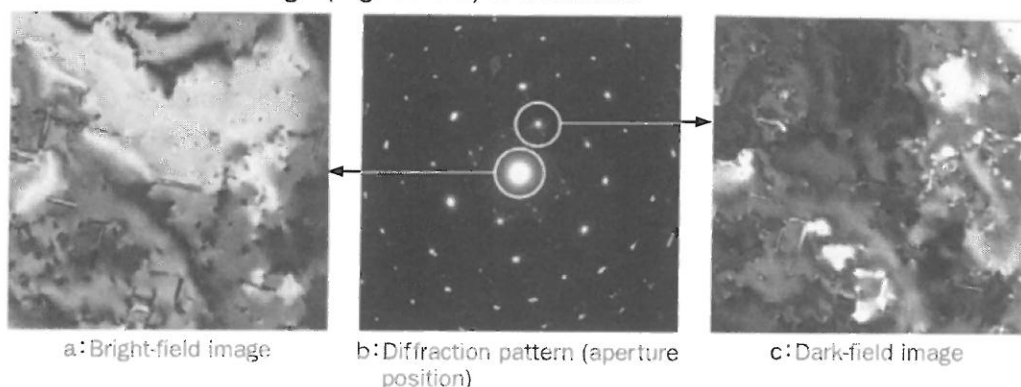

Fig. 5.29 Comparison of bright-field image and dark-field image
5. A bright-field image (Fig. 5.29-a) is obtained.
7. Adjust the brightness of the image with the BRIGHTNESS knob (L1-⑦). Adjust the electron beam position with the SHIFT knobs (L1-⑧, R1-④) if the position of the electron beam shifts from the center of the fluorescent screen. A dark-field image (Fig. 5.29-c) is obtained.